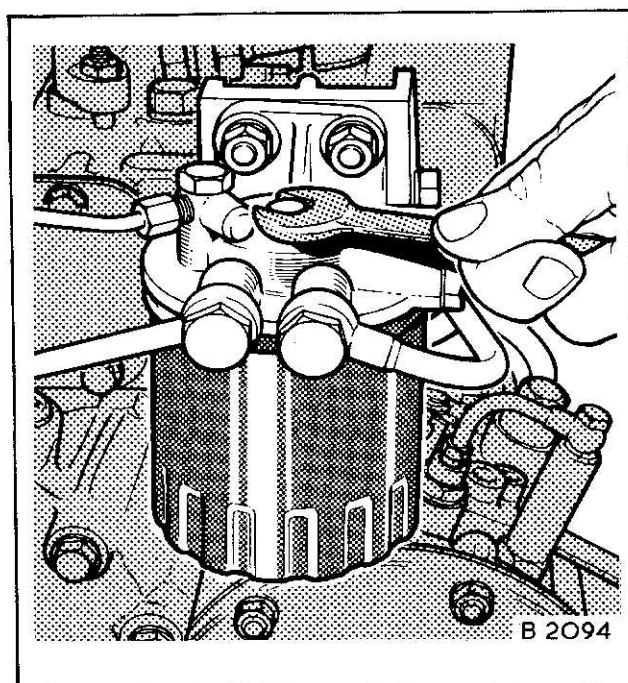

Fig. 8
1. Unscrew the vent plug, Fig. 8, on the top of the fuel filter by two or three turns.